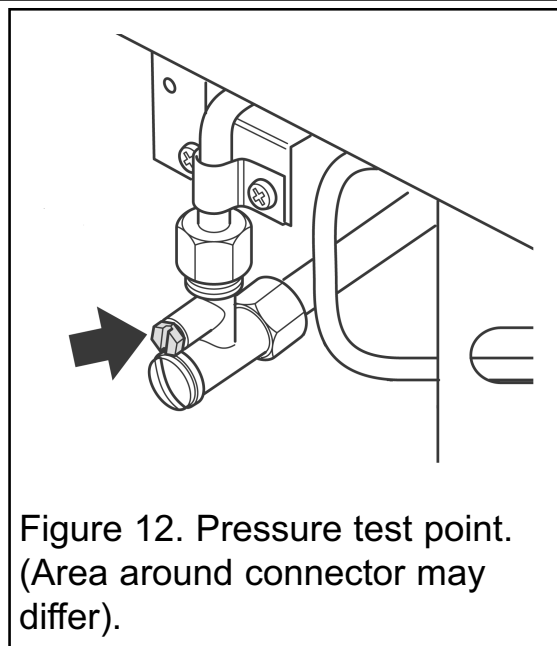

Figure 12. Pressure test point. (Area around connector may differ).
1. Attach a pressure gauge to the pressure test point (See figure 12).